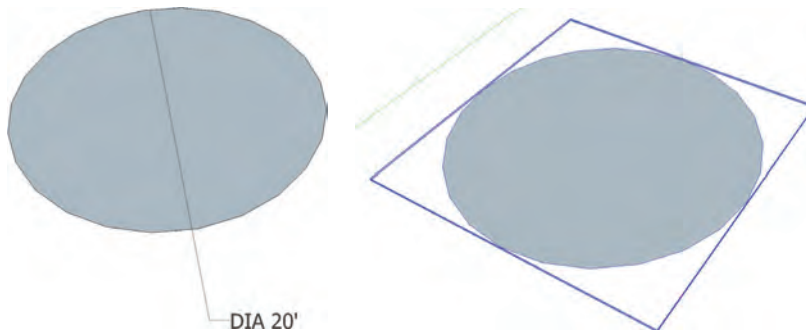

Fig. 8-11: Draft a 20'-diameter circle. Convert the circle face into a component.
1. Using the Circle tool, draft a 20'-diameter circle face on the ground. Select the face and edges of the circle, right-click, and convert the geometry into a component (call it Sphere) (Fig. 8-11).